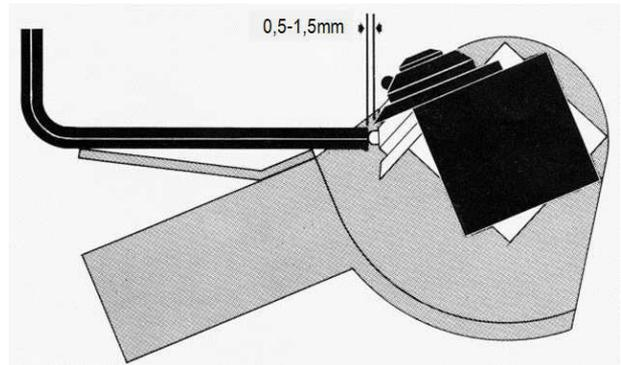

Figure 12
To ensure optimum work with the EDER Bark Stripper ESG-A56, sharp blades are necessary. If the device cuts too deep or even gets stuck, the knives must be moved back by approximately 0.2 mm. If the device does not cut deep enough, the knives must be moved forward approximately 0.2 mm. The necessary knife adjustment depends on the type of wood to be peeled and must be reset on a case-by-case basis. It must be ensured that the hard metal pins on the knife disc area always correctly positioned to the knife edge (see figure 12). All 4 knives must have the same setting and the same dimensions for the hard metal pins on the knife edge.
- Place the key (12), as displayed in figure 12, below the device.
- Keep the key in this position and then turn back the peeling cylinder until the knife is in front of the key (see figure 12).